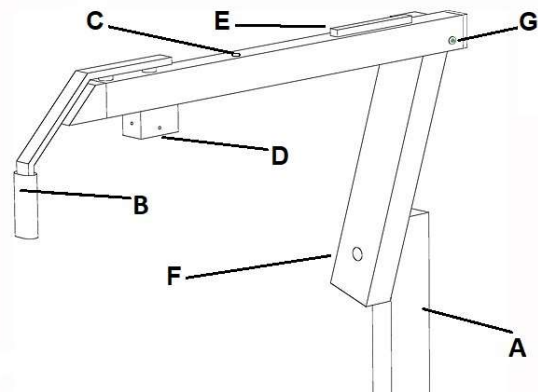

Figure 10: Physiologically inclinable phoropter arm
- Physiologically inclinable phoropter arm (Figure 10)